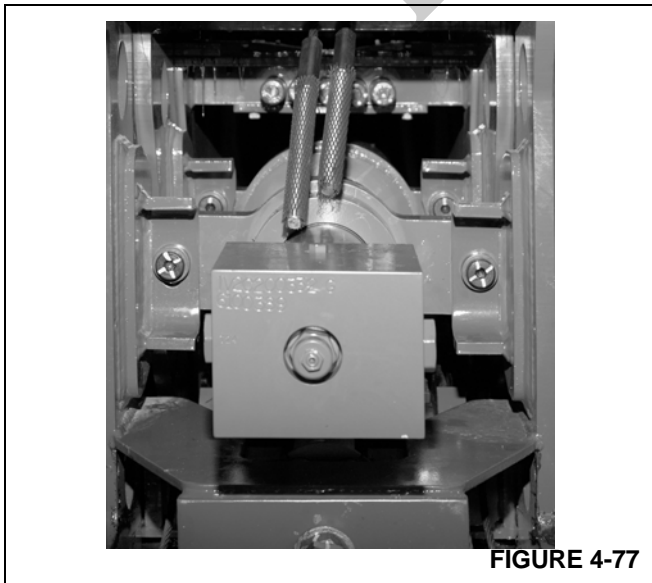

FIGURE 4-77
29. Attach the Tele Cylinder to the inner mid mounting flanges. Check to ensure bushings are free to rotate after bolts are tightened (Figure 4-77).